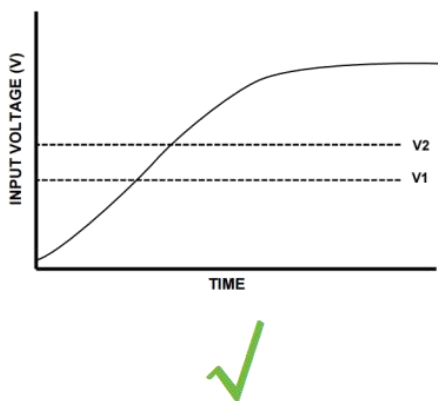
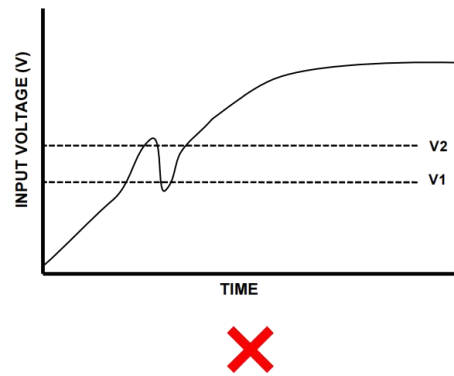

Figure 3-19 Monotonic power supply
Figure 3-20 Non-monotonic power supply
The iSMK and FD1X5 series drivers must use the monotonic power supply shown in Figure 3-19 when powering on. If the non-monotonic power supply shown in Figure 3-20 is used, when the deviation is close to any threshold voltage, the non-monotonic slope may cause problems such as abnormal start of the driver, resulting in an error failure.
- In figure 3-19 and figure 3-20, V1 indicates 10V voltage, and V2 indicates 17V voltage.